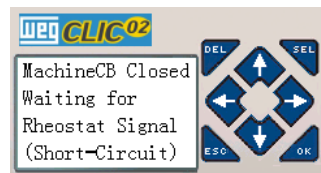

Figure 6.1: Display indicating machine circuit breaker closed
3. In this condition, the system will show the display as Figure 6.1.
3. Activate the machine circuit breaker and make sure that the BR1 signal has reached the control system. The controller will show the display as the Figure 6.1.
7. Verify the system complete operation, before, during and after starting, as described in item 4.10.2;